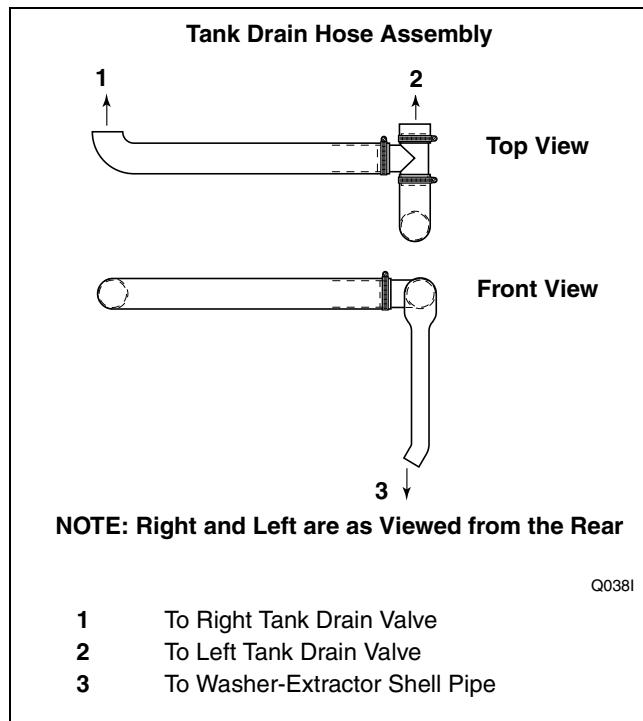

Figure 4
- Remove tank drain hose assembly from packaging. Slide drain hose over tank drain valves and washer-extractor shell pipe. Install large hose clamps on drain valves and small hose clamp on shell pipe and tighten. Refer to *Figures 4 and 5*.